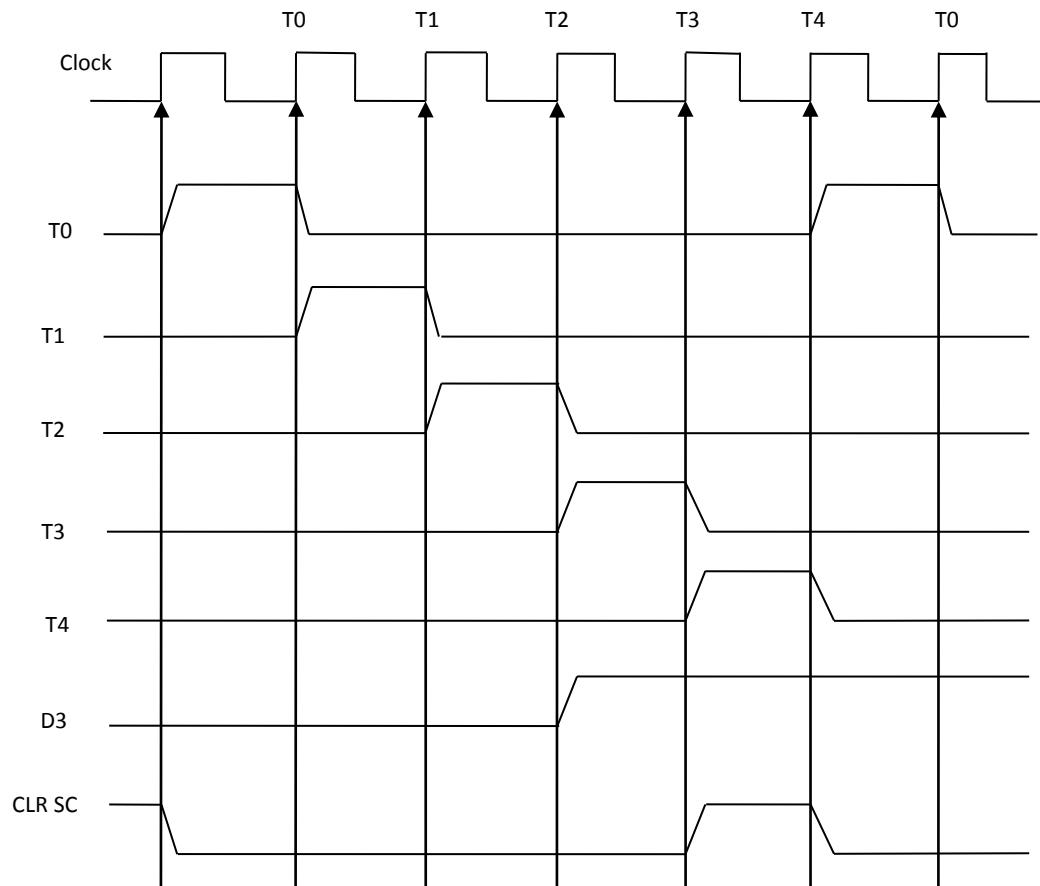

Figure 2.8: Example of control timing signals
- The timing diagram figure 2.8 shows the time relationship of the control signals.